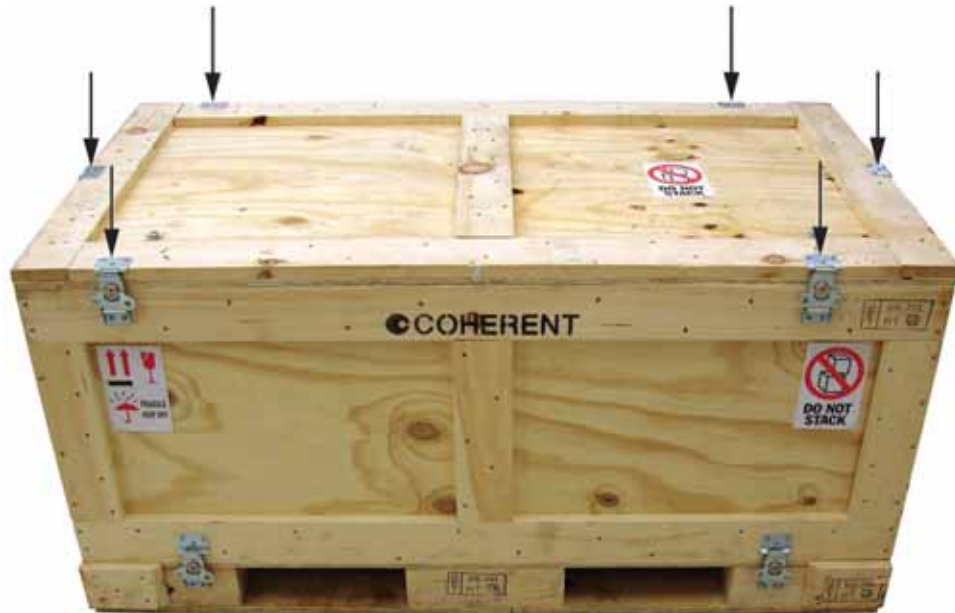

Figure 3-7. Removing Crate Cover
1. Unlock all six (6) clasps of the top cover (Figure 3-7).